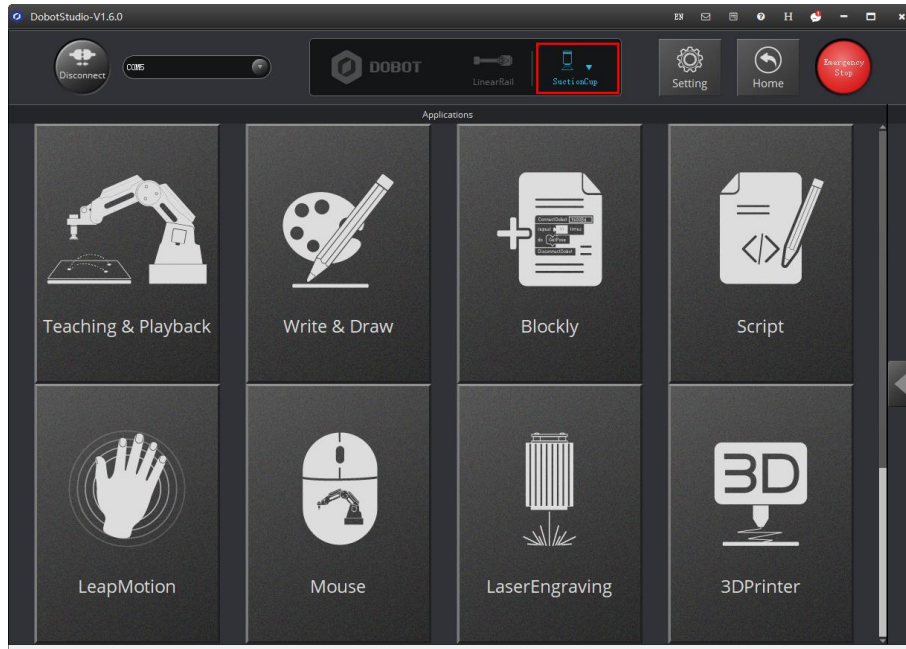

Figure 5.25 Choose SuctionCup as the end-effector
- Step 1** Choose **SuctionCup** as the end-effector on the **DobotStudio** page, as shown in Figure 5.25.